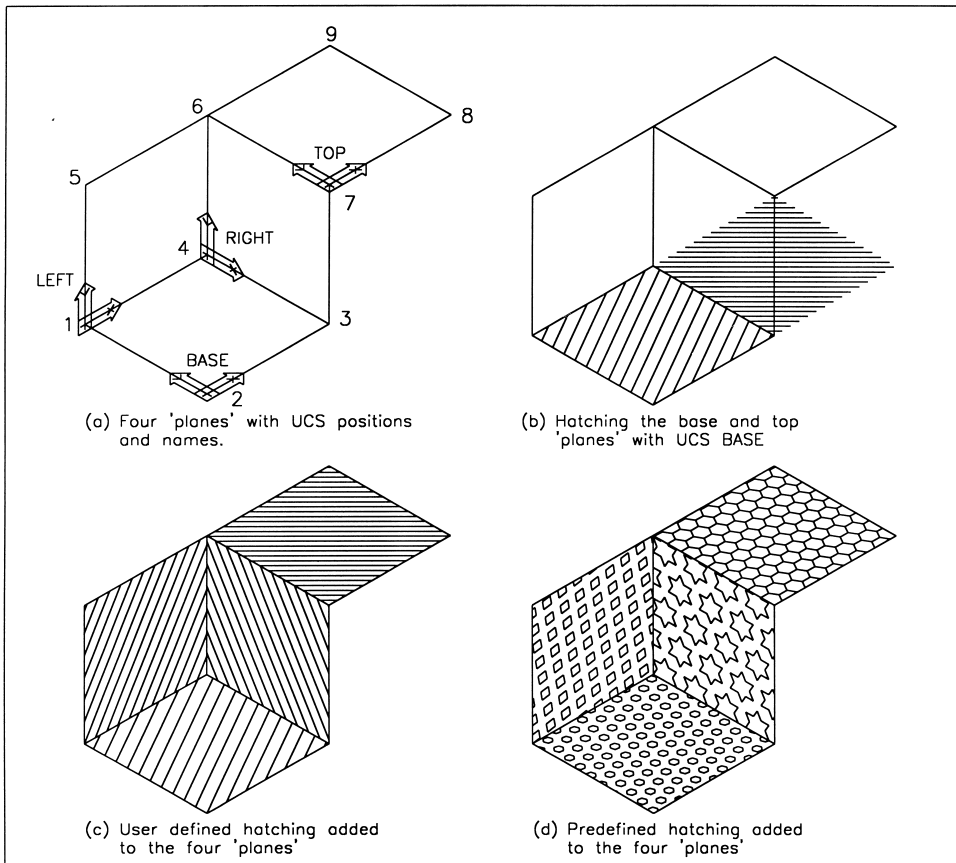

Figure 8.1 3D hatch exercise 1.
- 3 With layer MODEL current, refer to Fig. 8.1 and draw the four 'mutually perpendicular planes' using the LINE icon with: